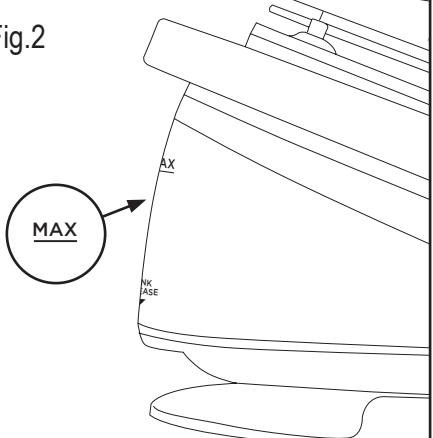

Fig.3
- ◆ Switch the appliance on (On/off) (L), setting the temperature and steam control (E) to the position that corresponds to the desired temperature. (Fig.3)